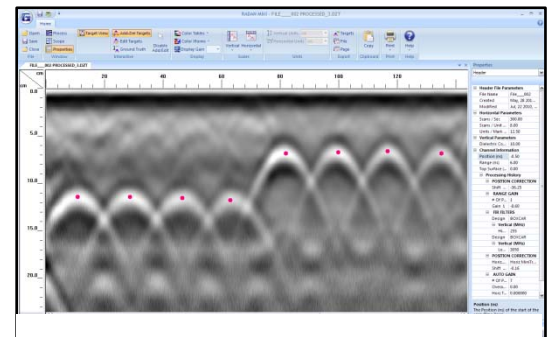

Figure 5
- **Add/Del Targets:** This will allow users to “tag” targets with a dot (Figure 5). Simply turn this on and click on a target to insert a dot. Right click on a dot to delete the dot. These dots will contain information about the target such as a horizontal distance, depth, and velocity. The information can be exported as a comma delimited ASCII file.